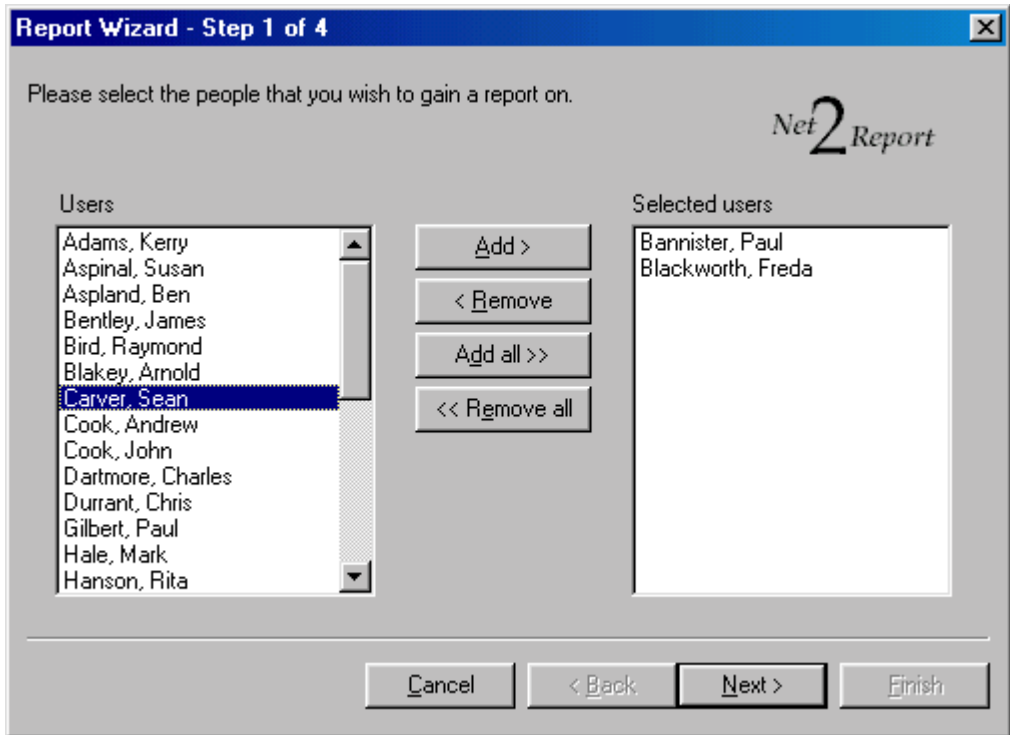

Figure 4.18
2. Select user(s) from the menu to include in the report by highlighting them and pressing **Add**. The selected users will appear in the right display window, see figure 4.18.